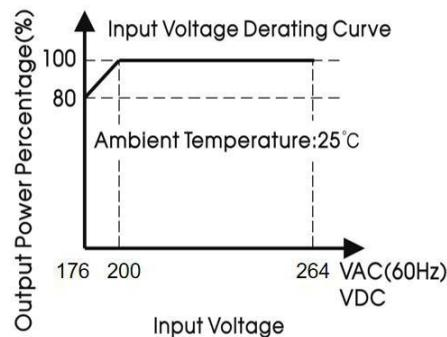

Fig. 3 EN600 Input Voltage Derating Curve
**4.2 Voltage & Load Range:** The input voltage and applied load must be within the range shown in the "**Input Voltage Derating Curve**". **Low voltage** can cause poor startup, overheating under load, and failure. **High voltage** causes excessive electrical stress and failure. Fig. 3 shows the EN600 "Input Voltage Derating Curve".